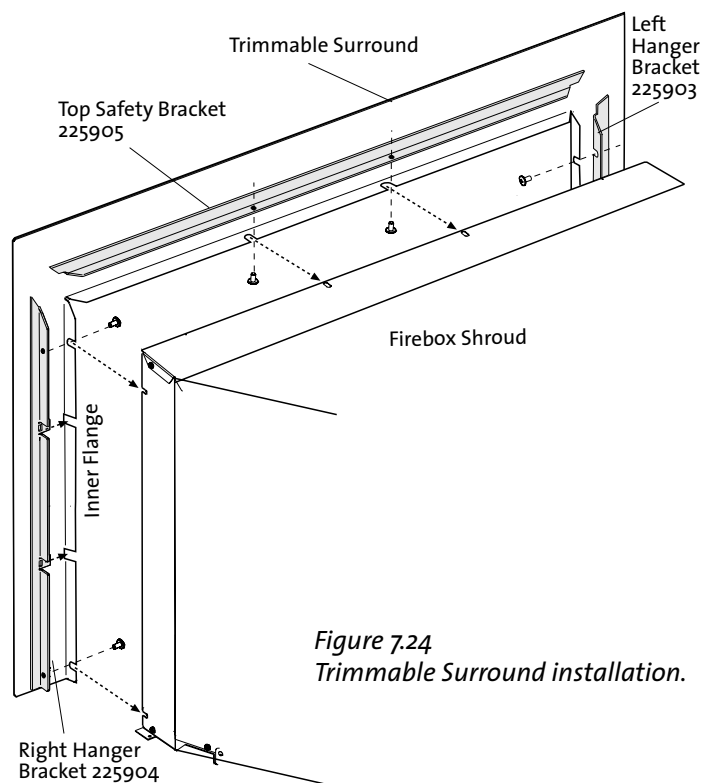

Figure 7.24
2. Very loosely attach the Right, Left, and Top Hidden Surround Hanger Brackets to the outside of the insert firebox using the ten, M6 x 8 phillips head screws as shown in Fig. 7.24.